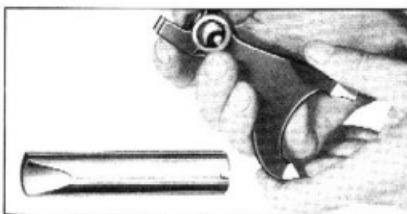

Fig. 23—Depressing Lock Ball
- In assembling the shifter forks to the shafts, first place the shift lock spring and ball in the fork. With the special tool shown in Fig. 23 force the ball down on the spring in the fork, then turn the tool one half turn to hold the ball in position. This tool holds the shift lock ball and prevents it from jumping out while the shaft is being installed.